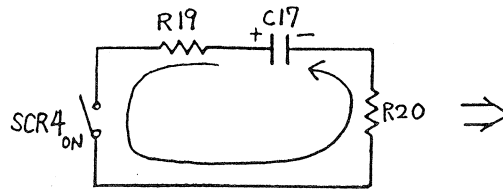
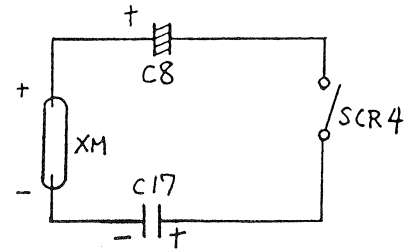

Fig. 10
Fig. 11
- [G] This opens the path to ground allowing C8 to discharge through the main flash tube causing a brilliant flash of light from the tube. At the flash current flows through R-19, C-17, and R-20 as shown in Fig. 10. This causes the negative side of C-17 to have a negative potential increasing the effective voltage drop across the flash tube improving flash reliability (Fig. 11).